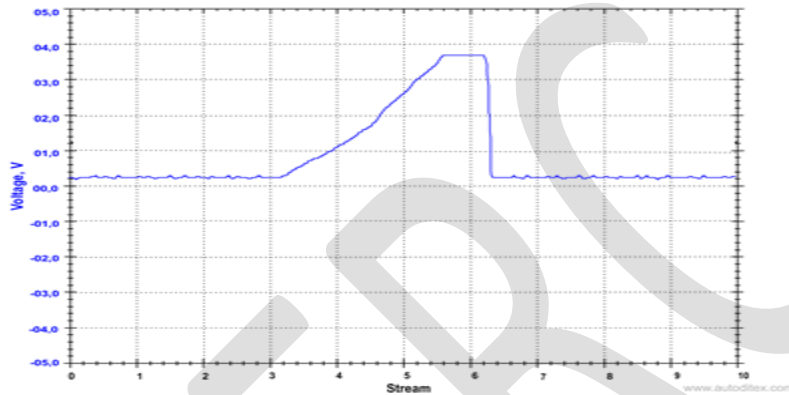

Fig. 2
- Smoothly operate the accelerator pedal and then sharply release the pedal. You must see a signal as in fig. 2.